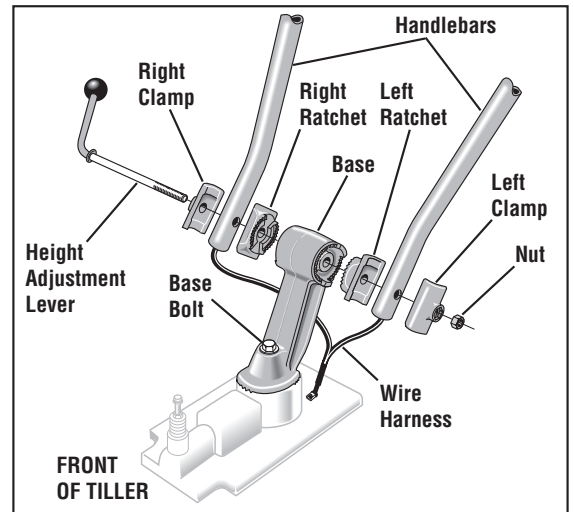

Figure 2-2. Handlebar assembly.
1. Disassemble the handlebar assembly. To do this, remove the height adjustment lever by turning the lever in a counter-clockwise direction (Figure 2-2).
2. Place the handlebar ends on either side of the base, with the wire harness toward the rear of the base (Figure 2-2).
3. Install the height adjustment lever through the right-side clamp, handlebar end, ratchet, and base; then out through the left-side ratchet, handlebar end, and clamp (Figure 2-2). Secure with nut, but don't fully tighten.
1. Loosen the bolt (Figure 2-2) on the handlebar base and swing the handlebars out to the right side.